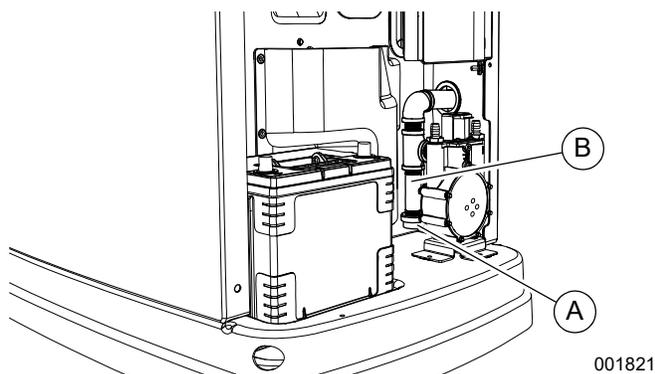

Figure 4-8. Cleaning the Sediment Trap
4. See Figure 4-8. Unscrew and remove cap (A).